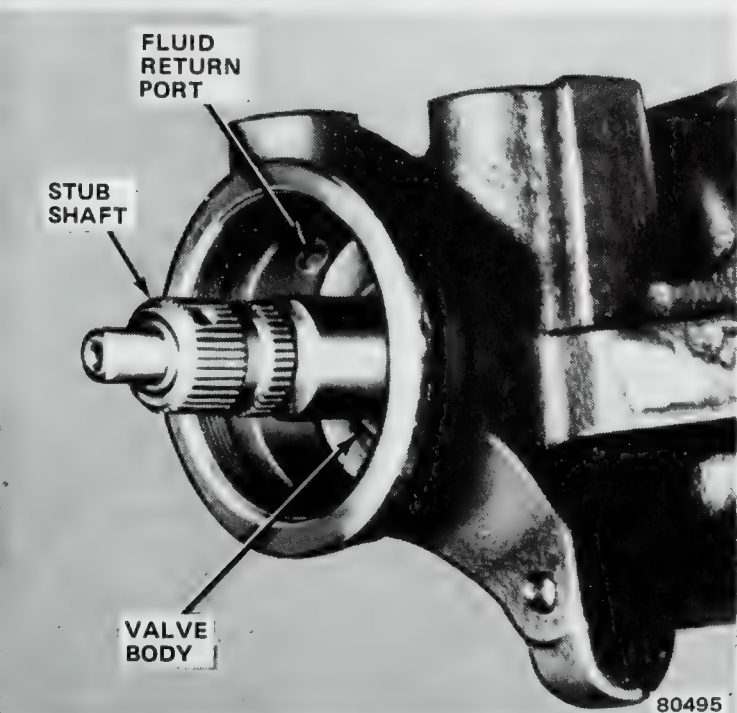

Fig. 2K-37 Seating Valve Body
(6) Install adjuster Plug Seal Protector Tool J-6222 over end of stub shaft (fig. 2K-38).
(7) Install adjuster plug assembly over end of stub shaft. Using Spanner Wrench J-7624, tighten plug until it seats against valve body. Approximately 20 foot-pounds (27.1 Nm) torque is required to seat plug. Remove seal protector tool J-6222 after installing adjuster plug.